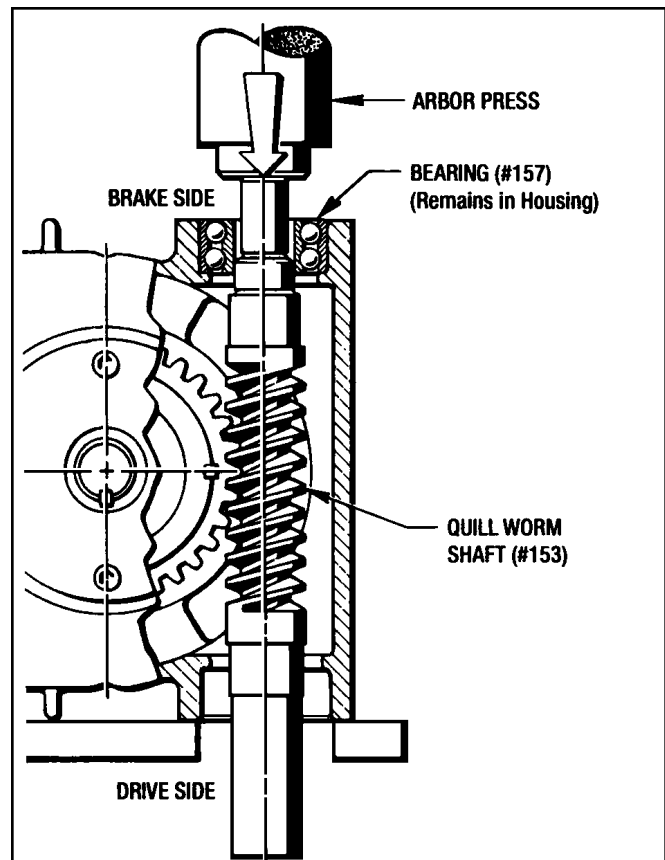

Figure 7.10 - Pressing Bearing (#157) Off Worm shaft
1. On the Brake End, remove (4) Screws (#199) and (4) Lockwashers (#627) and take the Bearing Retainer (#678) off.
5. On the drive side, remove (4) Screws (#199) and (4) Lockwashers (#202).
9. Press the brake end of the Worm Shaft (#1 53) until the Bearing (#157) slides off the bearing shaft diameter. (See Figure 7.10)